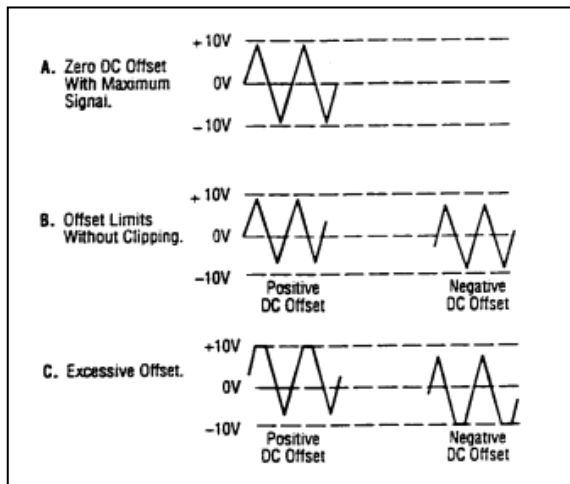

Figure 3. Use of DC OFFSET Control
- Remember that the output signal swing of the generator is limited to ± 10 volts open circuited or ± 5 volts into 50Ω , and applies to the combined peak-to-peak signal and DC offset. Clipping occurs slightly above these levels. Fig. 3 illustrates the various operating conditions encountered when using the DC offset. If the desired output signal is large or if a large DC offset is required, an oscilloscope should be used to make sure that the desired signal is obtained without undesirable clipping.
- A superimposed DC component can be added to the output signal by engaging the **DC OFFSET** switch (12) to enable operation of the **DC OFFSET** control (5). Rotation of this control adds a positive or negative DC component to the output signal. The DC component introduced is independent of the **OUTPUT LEVEL** control and can be varied by ± 10 volts open circuited or ± 5 volts into 50Ω . The DC Offset does not affect the **TTL/CMOS** output jack. The effect of DC OFFSET is shown in Fig. 3.